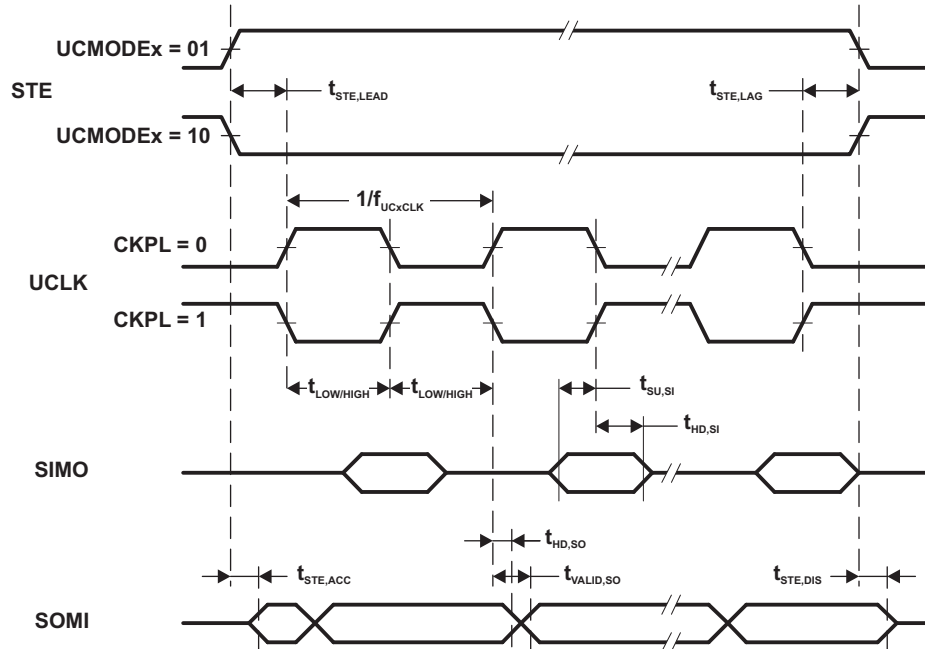

Figure 5-17. SPI Slave Mode, CKPH = 0
- (2) Specifies the time to drive the next valid data to the SOMI output after the output changing UCLK clock edge. Refer to the timing diagrams in Figure 5-17 and Figure 5-18.
- (3) Specifies how long data on the SOMI output is valid after the output changing UCLK clock edge. Refer to the timing diagrams in Figure 5-17 and Figure 5-18.